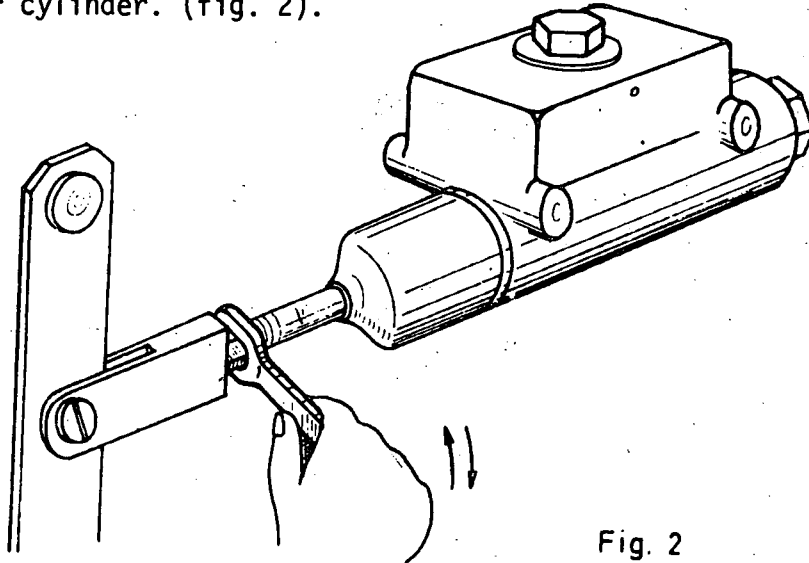

Fig. 2
a) Loosen the lock nut from the adjuster of the rod of the master cylinder. (fig. 2).